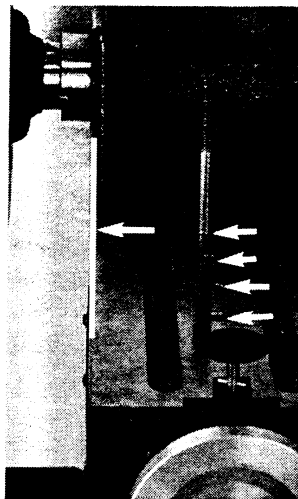
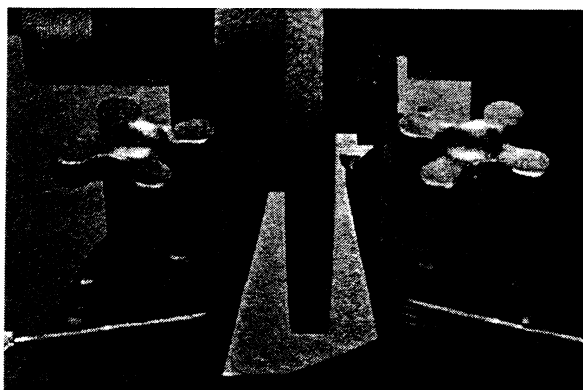
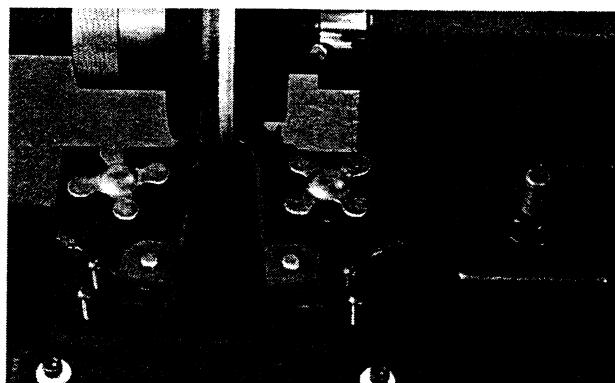

Figure 36
Figure 37
Figure 38
1. The Twin Cutter Assembly with Dampener, Part Number VNE869140, is shipped assembled. Position traverse slide to the extreme left **(Figure 36)** and the cross slide in toward the spindle housing.
2. Before mounting the twin cutter assembly be sure the twin cutter arms are positioned wide enough to straddle the disc rotor. **(Figure 37)** Mount the twin cutter assembly to the slide using the stud, spacer block and flange nut. **(Figure 38)**. Select the hole that allows the cutters to be just inside the smallest diameter to finish and still be square with the slide. **(Figure 36)** Tighten flange nut to hold twin cutter assembly securely. **(Figure 38)**.